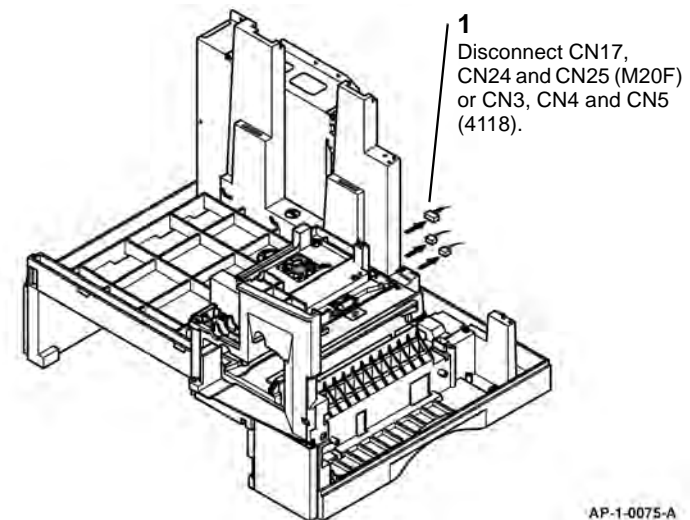

Figure 1 Connectors
NOTE: For clarity, the machine is shown disassembled in Figure 1, Figure 2 and Figure 4.
3. **(M20F)** Disconnect CN17, CN24 and CN25 from the PBA main, Figure 1.
- (4118)** Disconnect CN3, CN4 and CN5 from the HVPS, Figure 1.